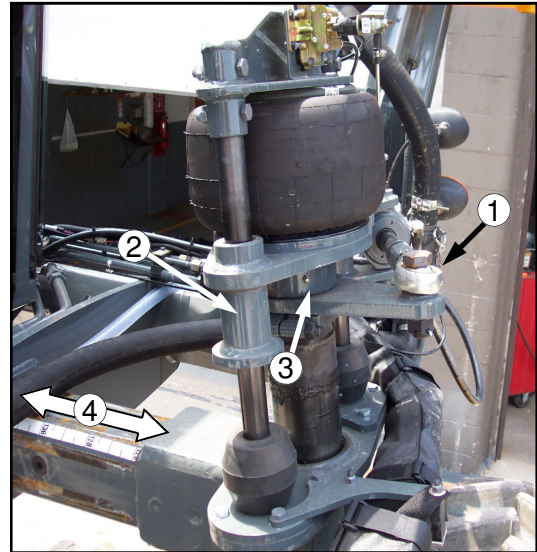

FIG. 93-1
LEGS AND STEERING– The front legs have a grease zerk in the tie rod ball (figure 93-1, item 1) that needs greased every 50 hours or weekly.
Both the front and rear legs have two grease zerks, one in each of the tower bearings (figure 93-1, item 2) that must be greased every 50 hours or as necessary. There is a zerk in the collar (figure 93-1, item 3) that also needs greased every 50 hours or as necessary.
The slide path of the tread adjust (figure 93-1, item 4) should be greased every 50 hours depending on the amount of usage.